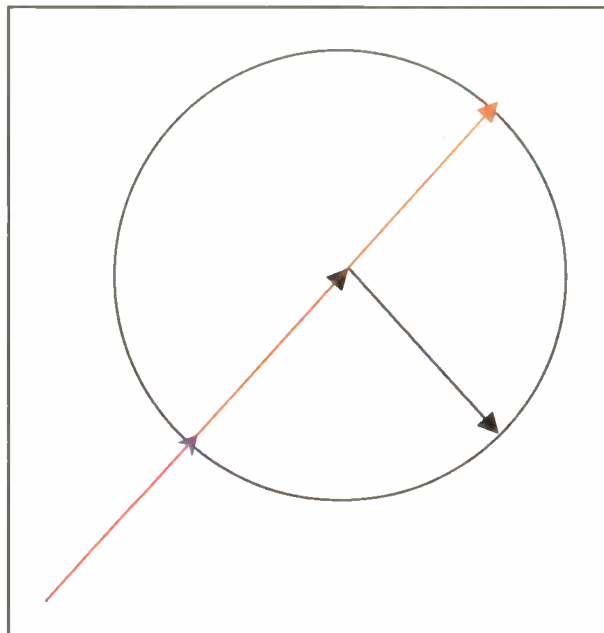

Fig. 3: Vector Addition of Reflections
A depiction of this complex addition in terms of two vectors is shown in Fig. 3. The magnitude of the total reflection varies according to the relative phase of the two component reflections. As Equation (10) indicates, the relative phase of the two reflections depends on the distance between the two components and the frequency. At some frequencies, they add constructively (long red arrow, Fig. 3), and at some frequencies, they add destructively (short, blue arrow).